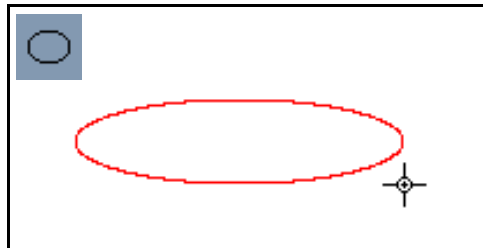

Figure 3.12 *Using the ellipse tool*
*Figure 3.12* shows an ellipse with its reference point in the center. The direction of an ellipse is always created in a counter-clockwise direction.